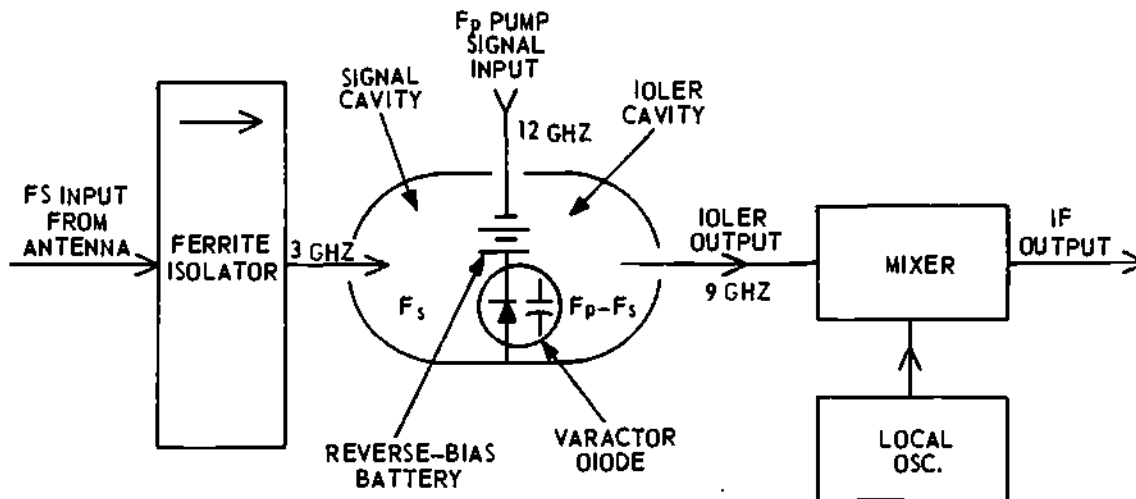

Figure 9
- _____ (1) Difference signal recombined with pump energy signal produces signal of greater amplitude than original input. Goes to ferrite circulator and to next step.
- _____ (2) Pump energy signal input.
- _____ (3) Antenna input through ferrite circulator to signal cavity.
- _____ (4) Nonlinear action develops a difference (idler) frequency signal here.
- _____ (5) Input signal developed in this cavity.
15. Select the true statement with regard to the operation of the up-converter amplifier shown in figure 9.